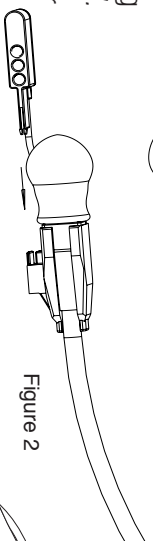

Figure 2
3. Insert the light component into microphone adapter until tabs click—see *Figure 2*.